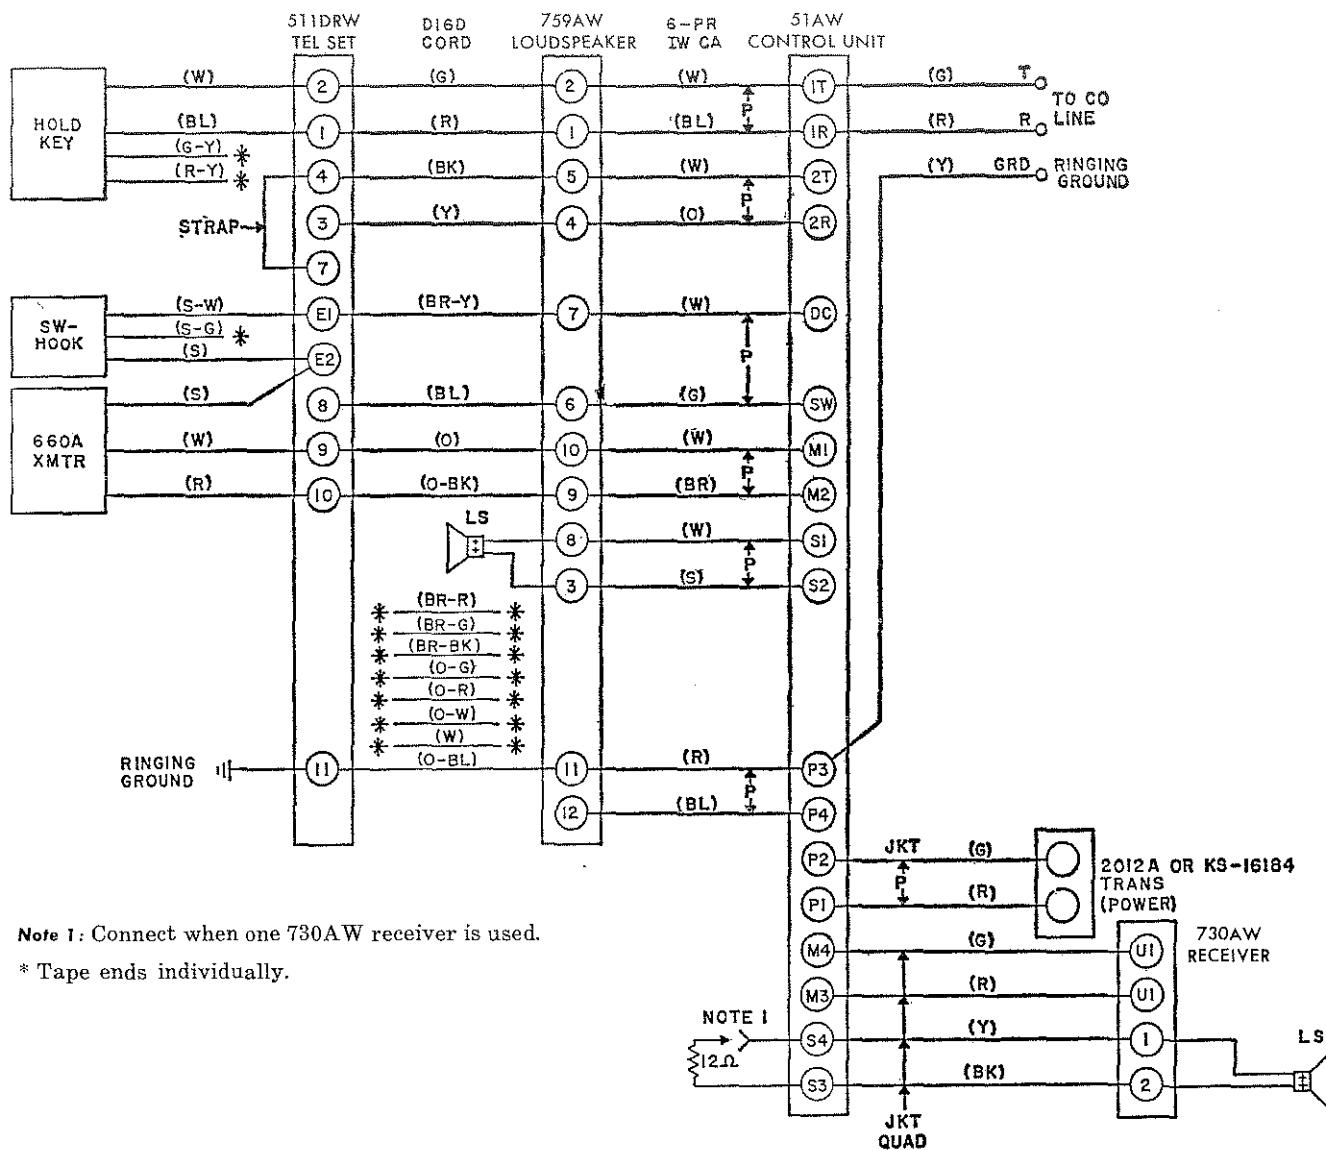

Fig. 16 — 511DRW Telephone Set Connections to 1A Home Interphone
10.01 Information shown in Fig. 16 through 18 should be used for 1A home interphone equipment connections.
10.05 To modify telephone sets to adapt to 1A home interphone, see Fig. 16, 17, and 18.